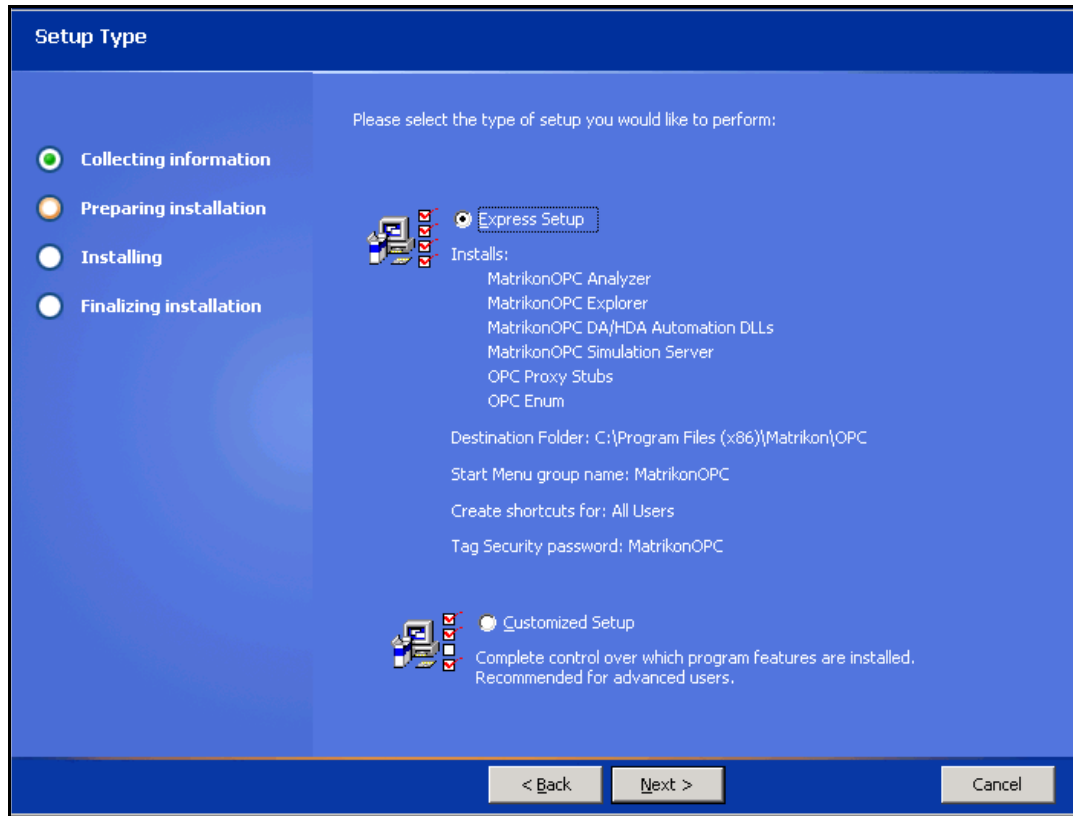

Figure 3 – Setup Type screen
6. Click on the **Next** button. The **Setup Type** screen (Figure 3) appears.
If Express Setup is selected the Server will get installed with default options mentioned in **Setup Type** Screen (Figure 3) and the user will not see Step 9 to Step 15.